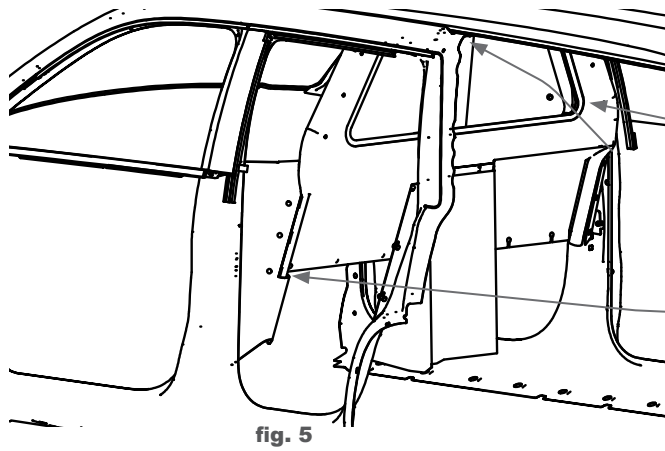

fig. 5
- D. Have one person hold the partition tight to the ceiling of the vehicle while the other person tightens all the loose mounting screws on the panels. Be sure the roll bar fits tight inside the sheet metal panels with no gaps. (Refer to fig. 5)